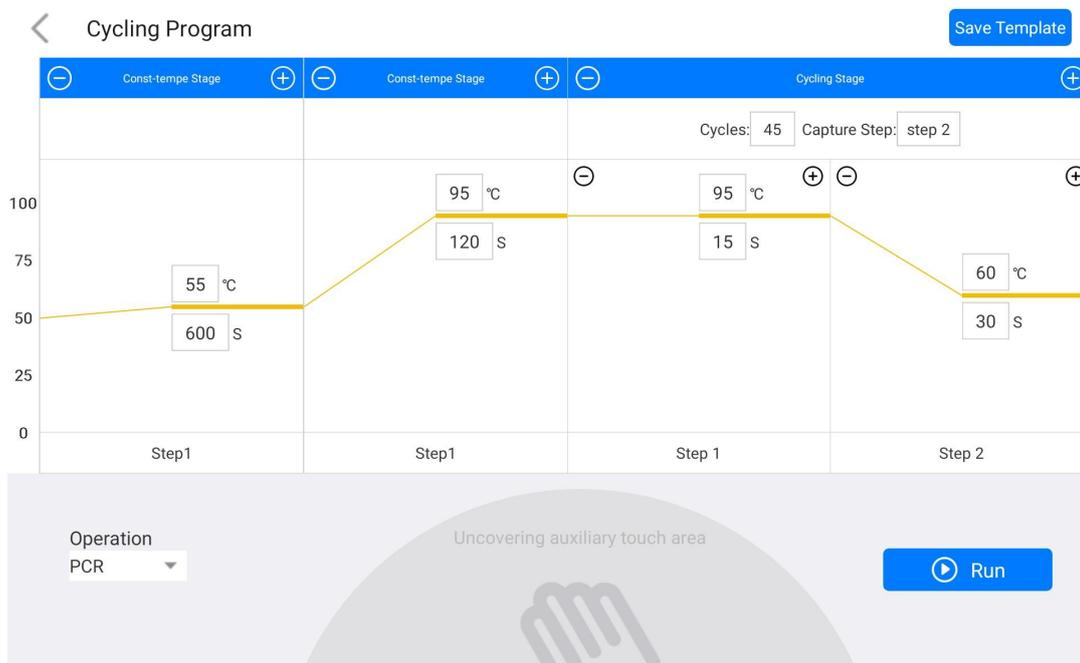

Figure 4-2-3 Experimental Setting 2
- 2) In Experiment Setting 2 (Figure 4-2-3), set the reaction program (parameters such as reaction temperature, reaction time, number of cycles, photo stage, etc.).